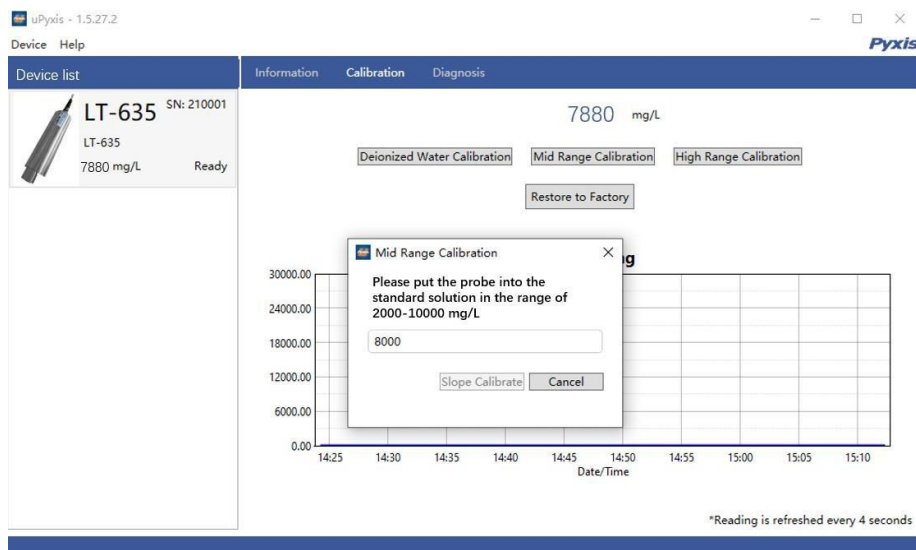

Figure 23 - Mid-Range Calibration
**Mid-Range Calibration Process** – After completing Deionized Water Calibration, remove and insert the LT-635 sensor into a clean and dry beaker and inject the midpoint calibration solution. **\*NOTE\*** *The midpoint calibration solution can be process water of the application itself, with a verified Total Suspended Solids (TSS) value in the range of 2,000 to 10,000 mg/L. The recommended method of TSS verification for the calibration solution being used is Gravimetric Total Suspended Solids determination.* Wait until the reading stabilizes and then click the Midpoint Calibration button to calibrate the midpoint, as shown in Figure 23. If the calibration is successful, the interface will return a message "Calibration Succeeded". If the calibration has failed, the interface will return a message "Calibration Failed" and the user must repeat the process until calibration success is achieved.